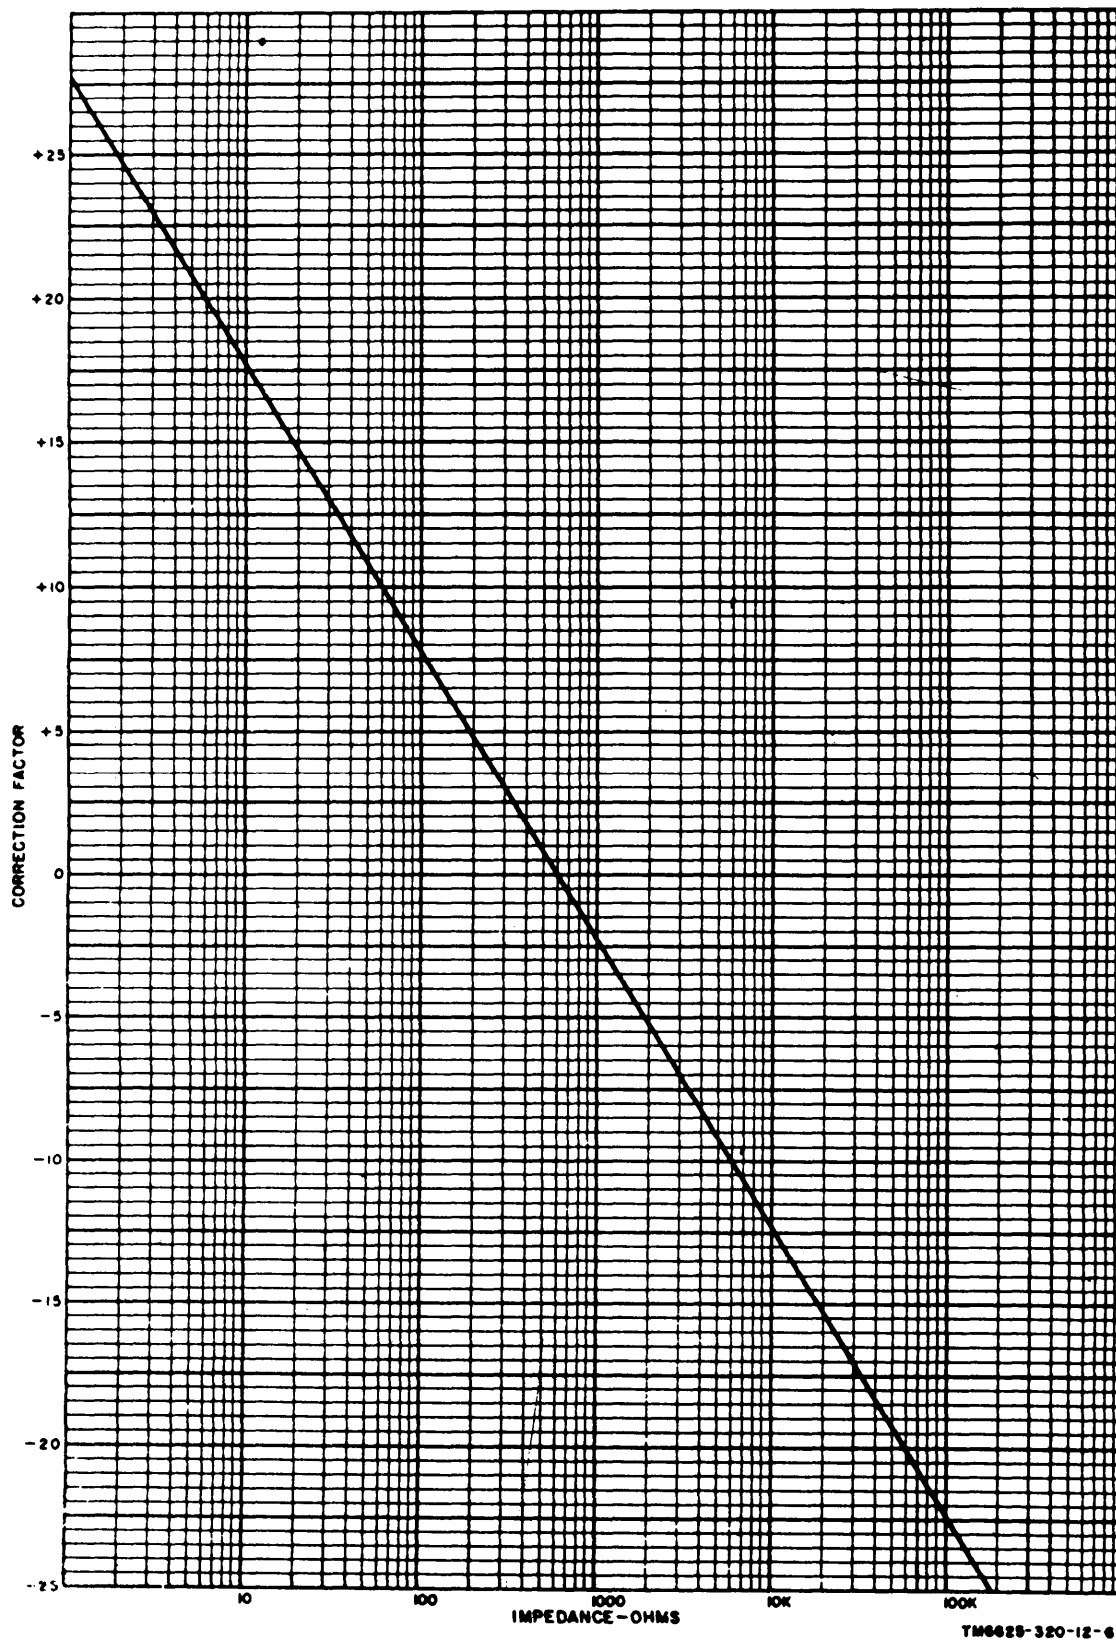

Figure 6. Impedance correction graph.
- (1) To obtain the reading in dbm, note the impedance across which the measurement is made and refer to the impedance correction graph (*c* below).
- (2) To obtain the difference in db between measurements made across equal impedances, algebraically subtract the levels being compared.
- (3) To obtain the difference in db between measurements made across different impedances, convert each measurement to dbm (*c* below) and algebraically subtract the levels being compared.
c. *Impedance Correction Graph* (fig. 6). When a measurement is made across an impedance other than 600 ohms, the level in dbm may be obtained by using the impedance correction graph.
- (1) Perform the steps given in a(1) through (7) above.
- (2) On the impedance correction graph, find the correction factor for the impedance across which the measurement is being made. This is accomplished by locating the impedance value at the base of the chart along the horizontal axis. From the impedance value point, extend a straight line vertically until it intersects the heavy diagonal line. From the intersection point of the heavy diagonal line, extend a line horizontally to the left to the scale value where the correction factor is read carefully.
- (3) The level of the signal in dbm is the algebraic sum of the value obtained in (1) above and the correction factor obtained from the graph. Examples are given in (a) and (b) below.